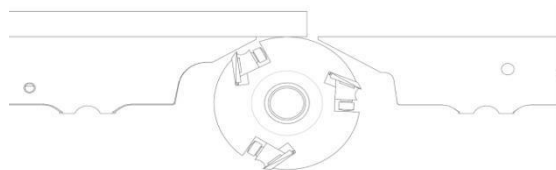

Fig.29: Straight Edge
**STEP 1:** Place a straight edge on outfeed table over the cutterhead and slightly touching the cutterhead body as shown in **FIG. 29**.